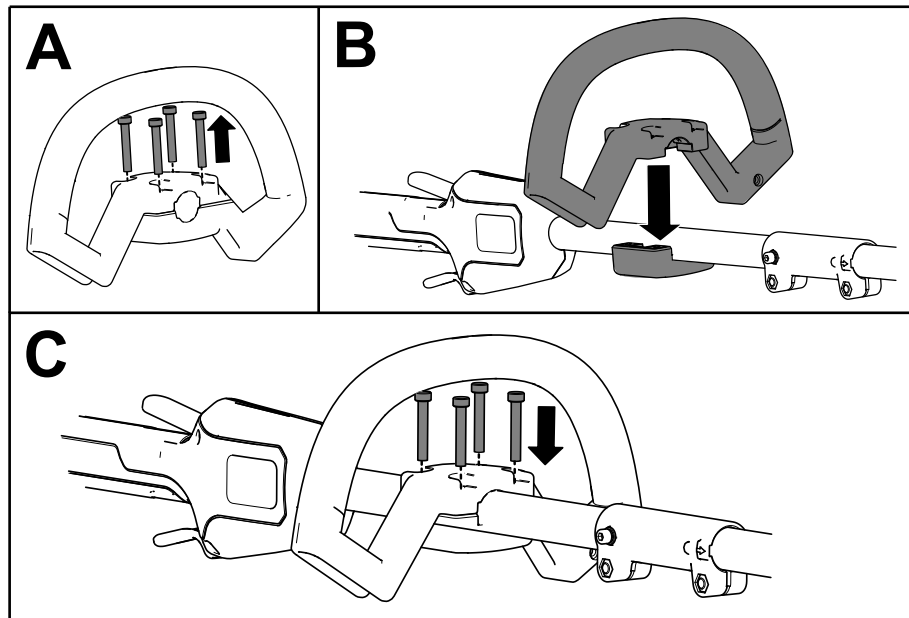

Figure 7
1. Separate the auxiliary handle from the handle plate by removing the 4 socket head screws using the provided Allen wrench (A of Figure 7).
2. Line up the auxiliary handle with auxiliary handle plate on the shaft (B of Figure 7).
3. Secure the auxiliary handle to the handle plate with the 4 socket head screws previously removed (C of Figure 7).